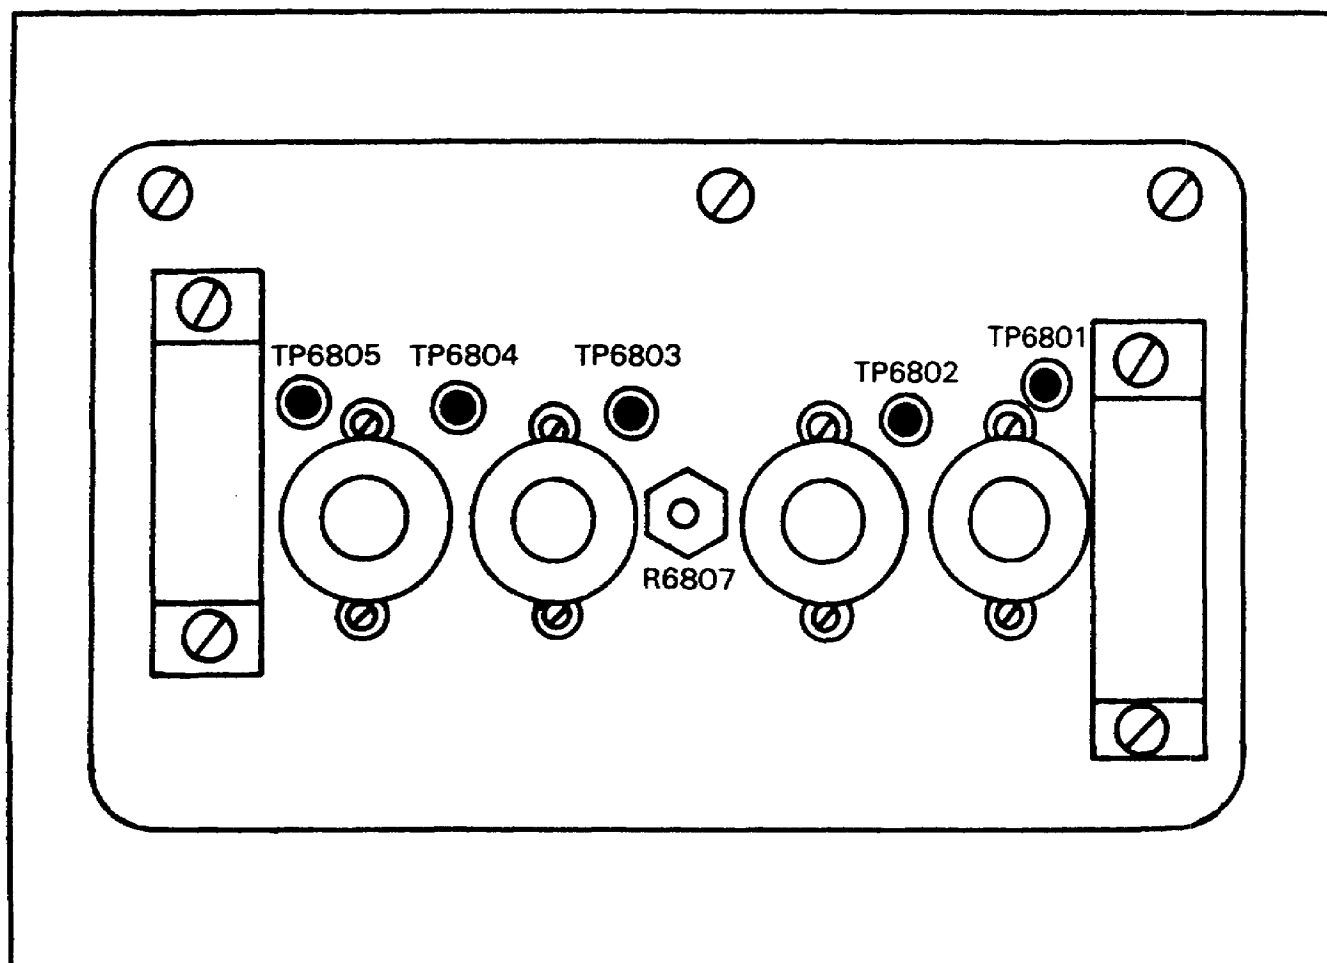

Figure 48. Oscillator, pulse delay, 0-1284/FPN (top view).
f. Locate TP-6802, B-trigger delay gate test point and R6807, B-trigger delay adjust pulse delay, 0-1284/FPN. (See Figure 48.)
- _____ B-trigger delay gate test point TP-6802 (Figure 48)
- _____ B-trigger delay gate adjust control R-6807 (Figure 48)